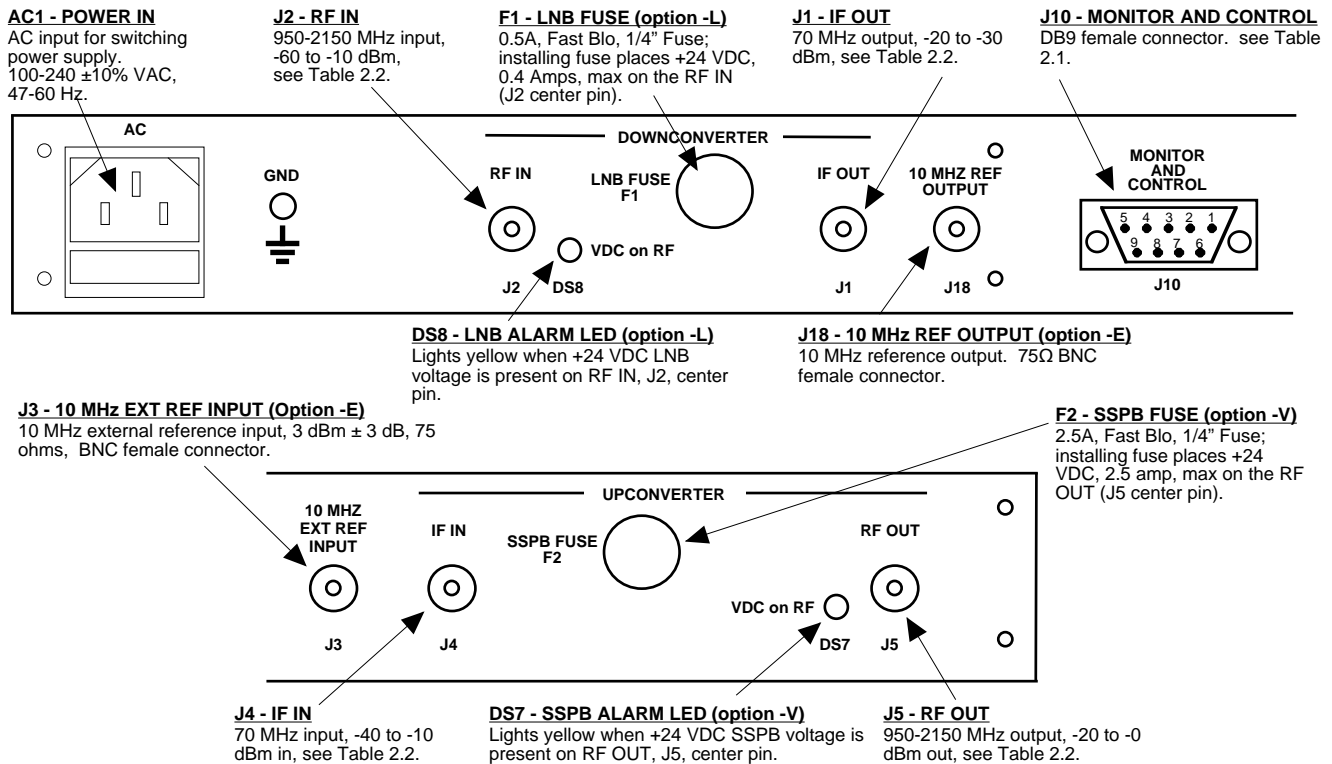

Figure 2.1 Model 2017-02A Rear Panel I/O's
2.2 Rear Panel Input/Output Signals and Control - Figure 2.1 shows the input and output connectors on the rear panel.
- 1.) Connect a -10 dBm to -40 dBm signal to IF In, J4 (Figure 2.1).
- 1.) Connect a -70 dBm to -20 dBm signal to RF In, J2 (Figure 2.1).